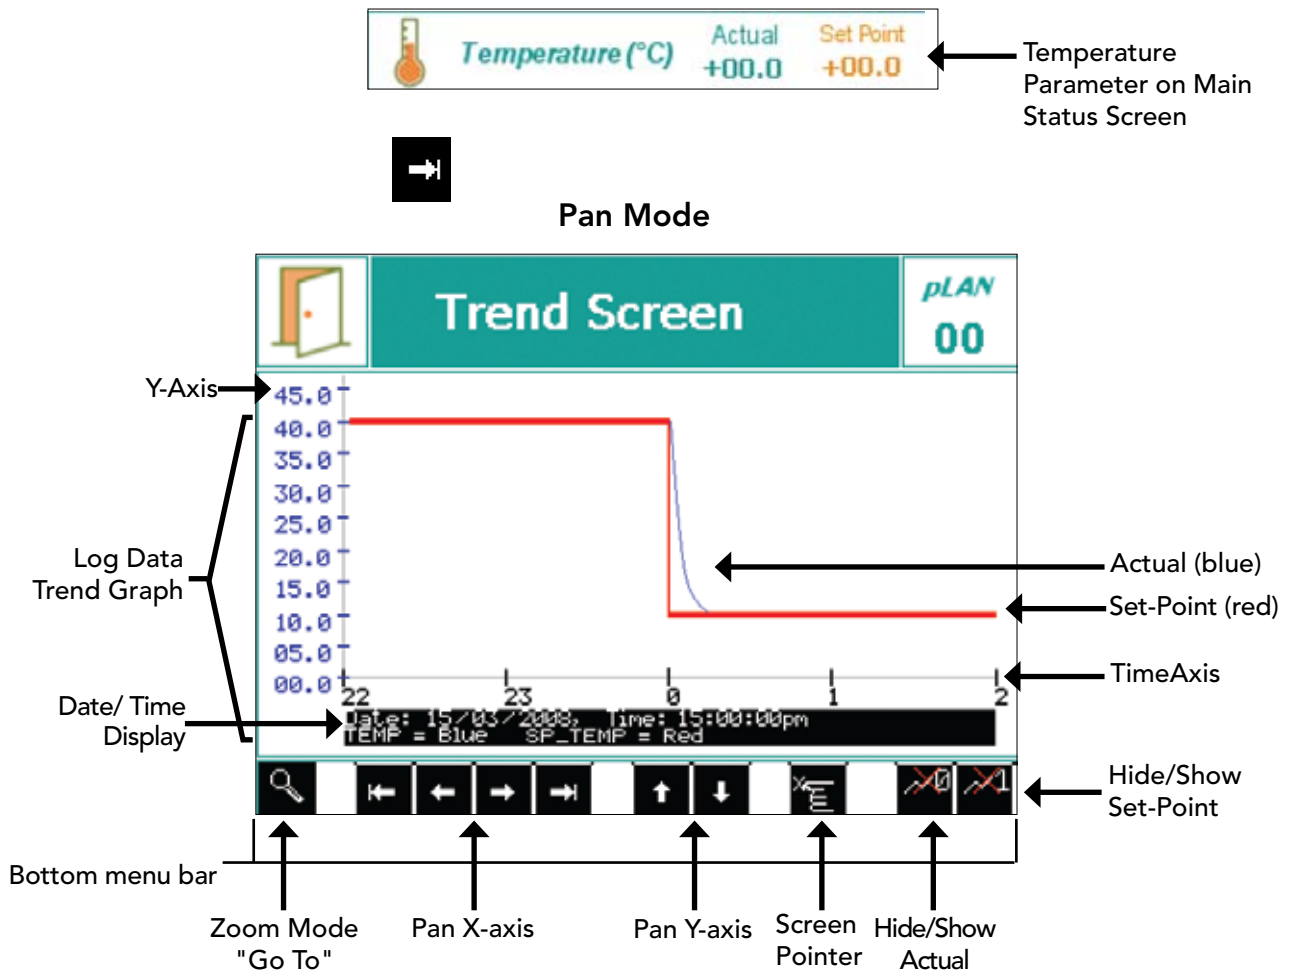

Figure 8-2: Trend Screen – Key Area Layout for Pan Mode
To access the Trend Screen for any of the four (4) Key parameters (Temperature, %RH, Light, CO₂) tap the desired parameter on the Main Status Screen. The example below (Figure 8-2) shows the Trend Screen for Temperature.
Time Axis	The Time Axis shows integers in units of time, and these units change as you Pan. To know what units the Time Axis is displaying ensure you are viewing the Trend Screen in Pan Mode (Figure 8-2) and then compare the Time display (in the Date/Time field) with the left-most integer on the Time Axis. If the left-most integer matches (for example) the 'minutes' field in the Date/Time display, then the Time Axis is being display in 'minutes'. Notice that as you Pan to the right, both the Date/Time display AND the left-most integer on the Time Axis change simultaneously. ¹